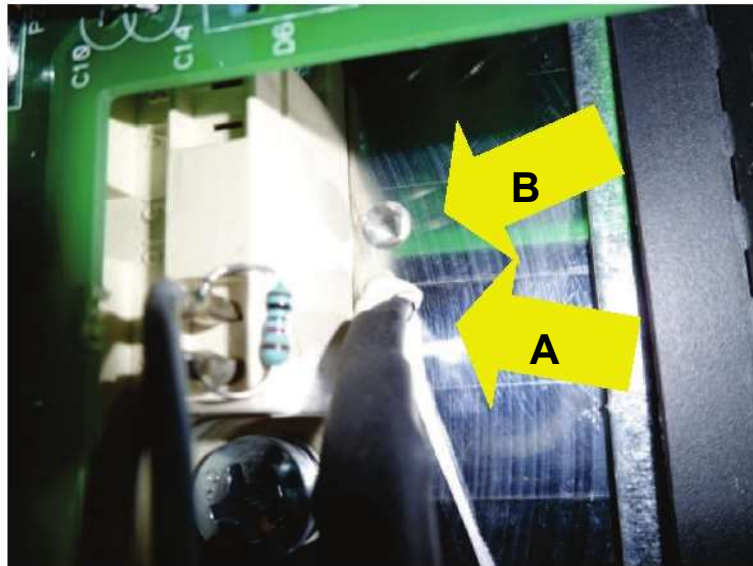

Fig53
- 2) Remove the PTC from the BOOST heatsink (inserted into hole A; see Fig. 53).
- 4) Fill hole B (see Fig. 53) on the BOOST heatsink with Dowcorning 744RTV SEALANT